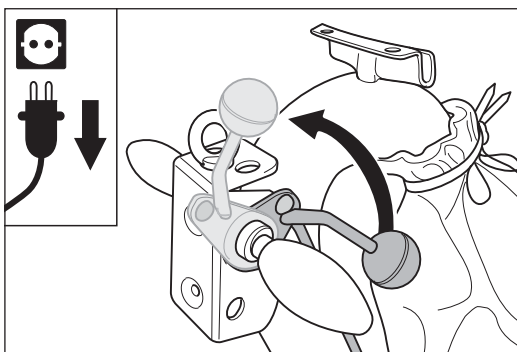

Fig. 92 Lift the sanding drum off the floor by turning the lowering lever at the handle upwards.
- 2 Lift the sanding drum off the floor by turning the lowering lever at the handle upwards (Fig. 92).